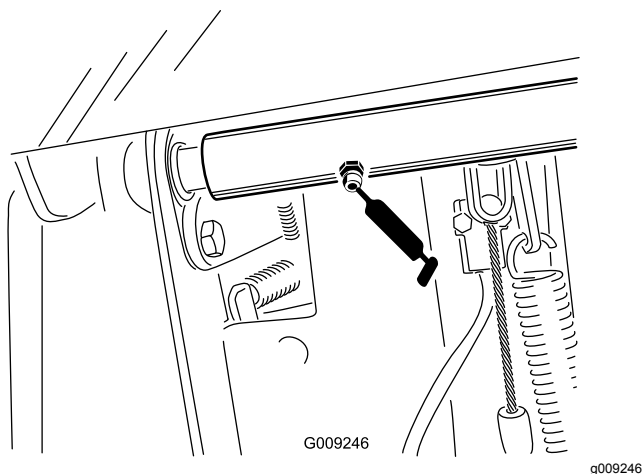

Figure 56
- 2 brake pedal pivot-shaft bearings (Figure 56)